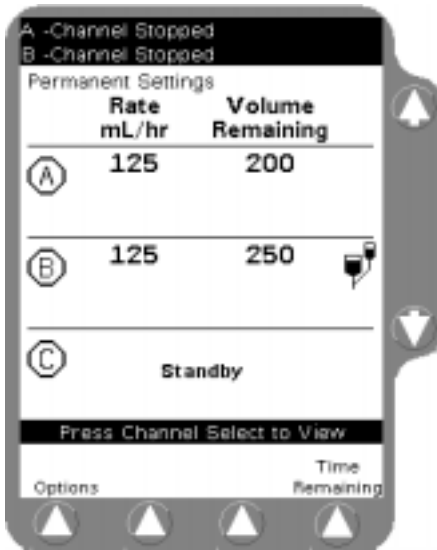

Figure 3-22 Piggyback Stopped
2. Press the **STOP** key on the desired pump module (Figure 3-22).